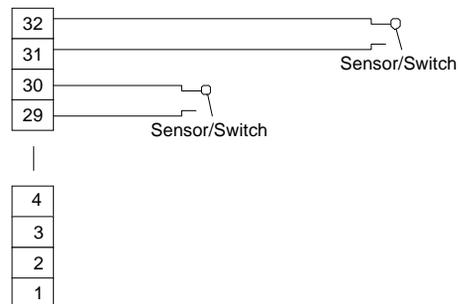

FIGURE 48. NIGHT MODE SWITCH
4. Connect a push-on/push-off or toggle type switch to SENS1 through SENS2 on the punchdown block corresponding to the sensor number assigned in programming as illustrated in Figure 48.